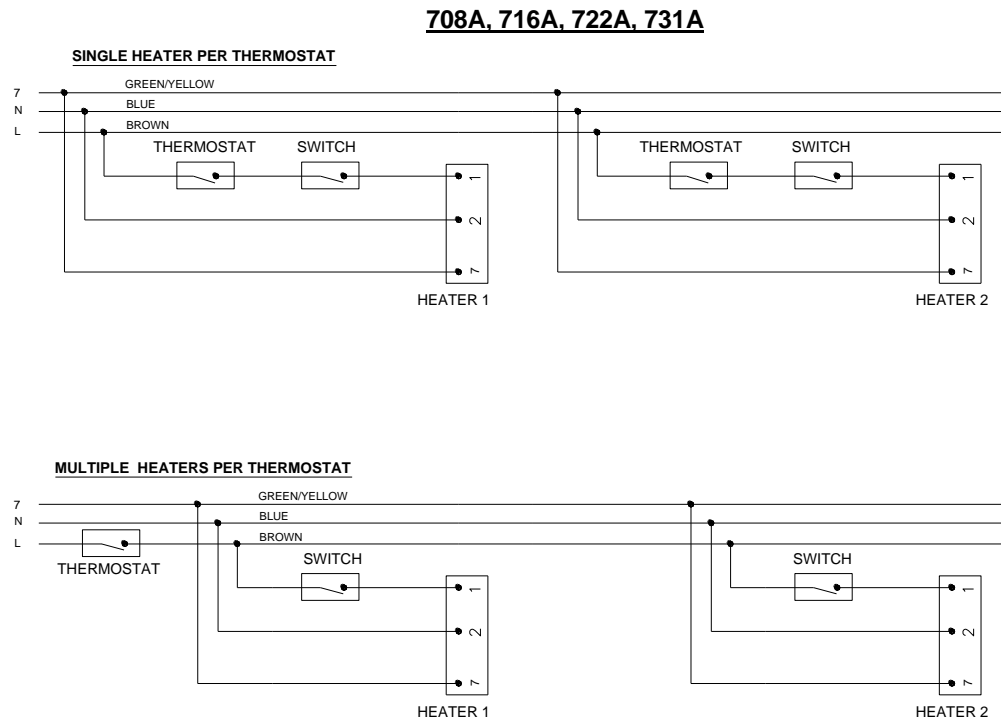

Fig. 6
2. Twin core and earth PVC covered flexible supply cable (0.5mm2 - to National or Local standard specification) must be used, with connections made as shown in Fig. 6.